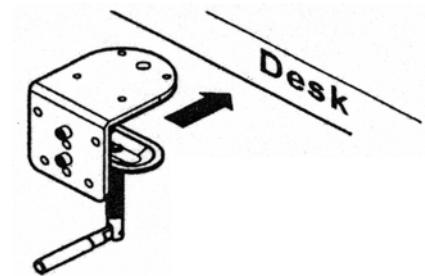

Figure 12: Affix Clamp to Bench Top
- 3) Secure the clamp to the desk/bench top (Figure 12). This will make subsequent installation easier. The clamp is capable of securing the arm to surfaces 15-100mm thick (30mm and up is ideal).